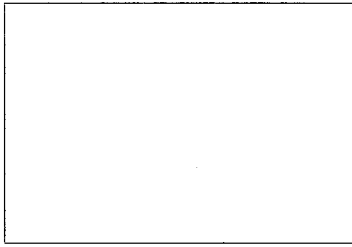

Fig. 3: Using the CU 40 optional charger
Refer to fig. 3:
To charge the battery, insert the transmitter (1) into the optional CU 40 charger (2) as shown in fig. 3. For details, refer to the CU 40 charger manual.